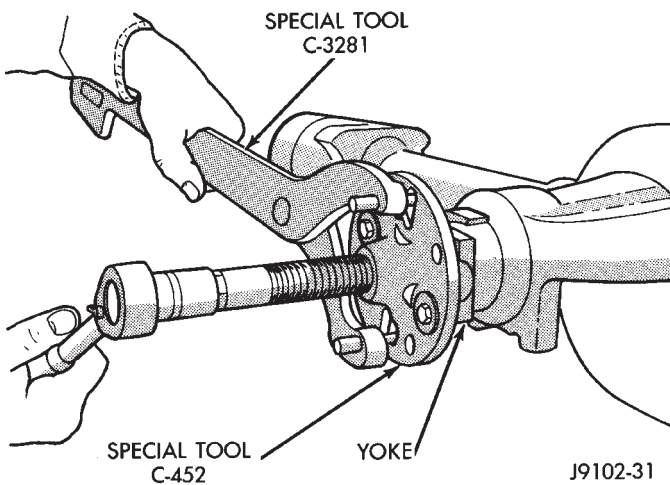

Fig. 34 Pinion Yoke Removal
(1) Remove differential from the axle housing.
(2) Mark pinion yoke and propeller shaft for installation alignment.
(3) Disconnect propeller shaft from pinion yoke. Using suitable wire, tie propeller shaft to underbody.
(4) Using Holder 6958 to hold yoke, remove the pinion yoke nut and washer.
(5) Using Remover C-452 and Wrench C-3281, remove the pinion yoke from pinion shaft (Fig. 34).